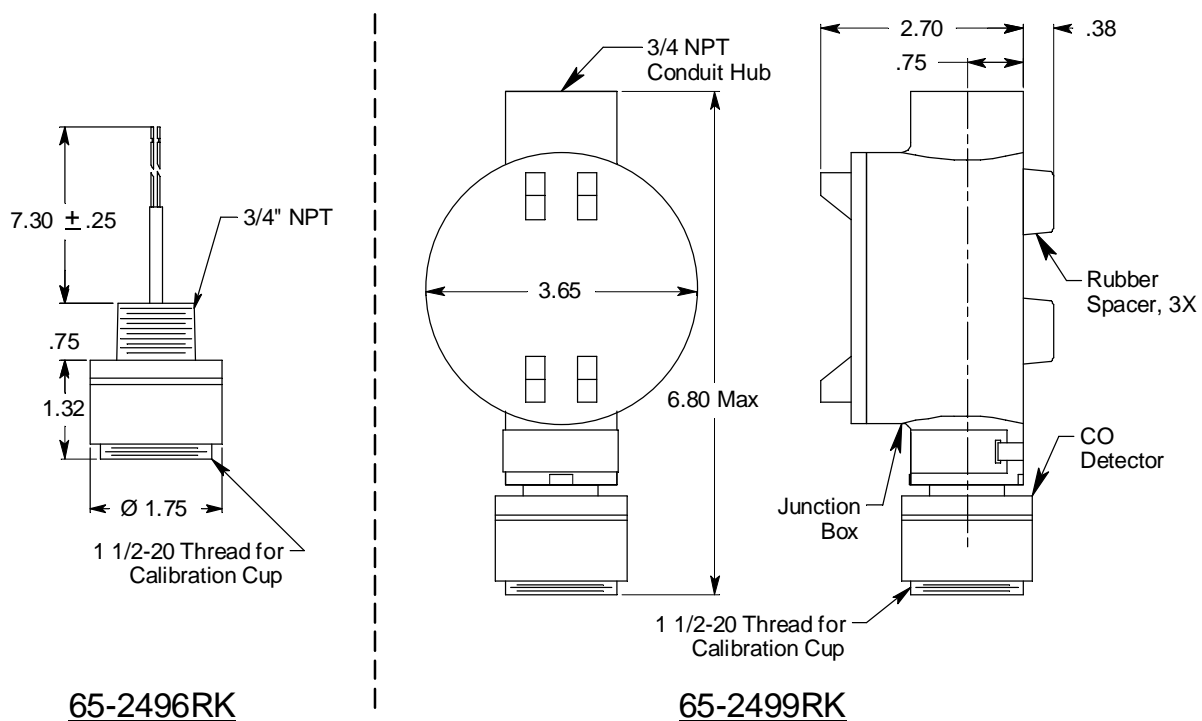

Figure 3: Outline & Mounting Dimensions, 65-2496RK & 65-2499RK
NOTE: If you are installing a 65-2496RK, it does not include a junction box and is usually factory installed in one of a controller's conduit hubs or may be field installed using the 3/4" NPT threads on the end with the wires. The 65-2499RK includes a junction box as shown in Figure 3 below.
2. At the mounting site you select, hang or mount the junction box with the detector facing down (see Figure 3).